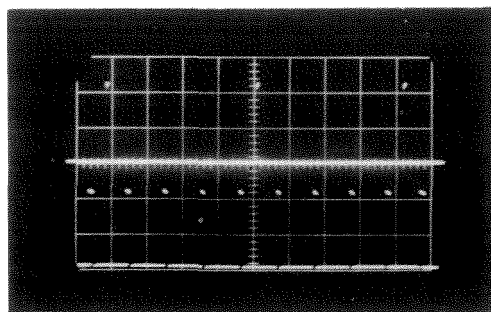

**Figure TWA-4. 240-Cycle Tonewheel Head Pulse at TP1**
**240-Cycle Pulse.** The 240-cycle tonewheel head pulse (figure TWA-4), having an amplitude of 1.5 to 1.8 volts peak-to-peak, is fed into a preamplifier consisting of two cascaded triodes (V1) which increase the pulse amplitude to approximately 60 volts peak-to-peak. (Refer to block diagram, figure TWA-2, and schematic diagram, figure TWA-23.) Regenerative clipper V2 converts the amplified tonewheel pulse into a rectangular pulse having an amplitude of approximately 42 volts. The rectangular pulse is differentiated before being fed simultaneously to diode V3A and amplifier V11.